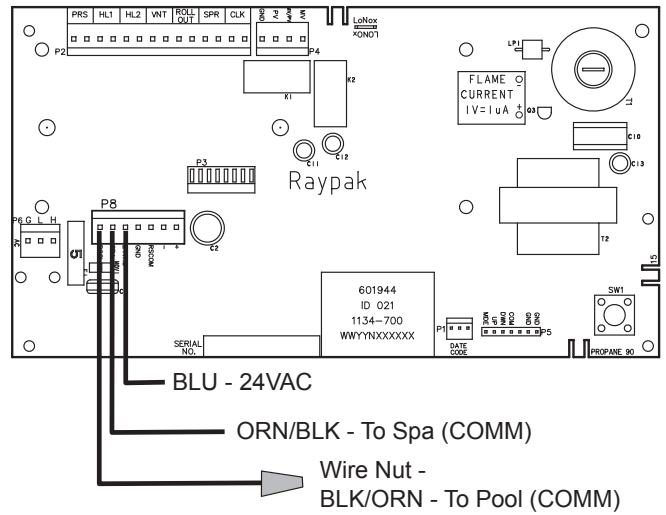

Figure 31. 2-Wire Remote Harness Installation on the P8 Connector of the ATF Board
7. Install the "7-Pin Remote Interface Harness" to the P8 connector and turn power "On" to the heater. See **Figure 31**.